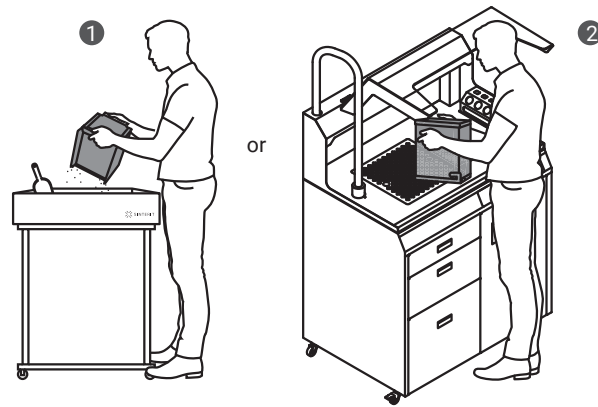

Fig. 3.4 Moving the IO BOX to the foldable tray ① or to the Multi PHS worktop ② to clean the printout.
10. Carry the IO BOX and its contents onto the foldable tray ① or to the Multi PHS worktop ② (fig. 3.4).